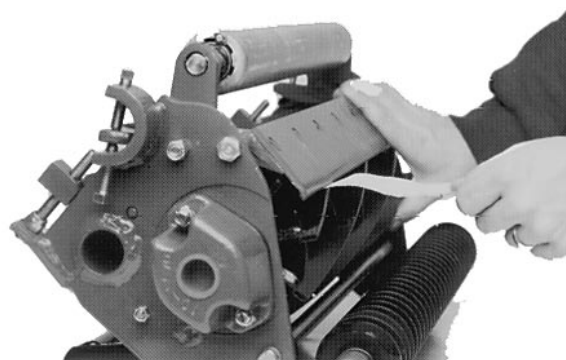

Figure 2
3. After the adjustment, check to see if the reel can pinch paper when it is inserted from the front and also cut paper when inserted at a right angle (Fig. 2). It should be possible to cut paper with minimum contact between the bedknife and the reel blades. Should excessive reel drag be evident, it will be necessary to either back lap or regrind the cutting unit to achieve the sharp edges needed for precision cutting (see Toro